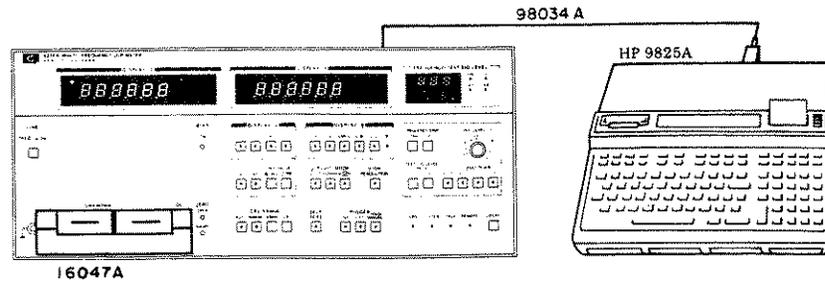

Figure 4-9. HP-IB Interface Test Setup.
2. Connect 98034A Interface Card with cable between 9825A I/O slot and 4274A rear panel HP-IB connector as shown in Figure 4-9.